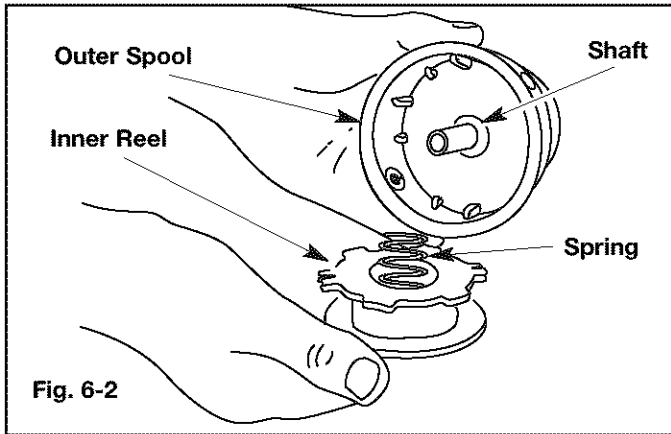

Fig. 6-2
2. Remove the inner reel from the outer spool (Fig. 6-2).
3. Remove spring from the inner reel (Fig. 6-2).
2. Remove the old inner reel from the outer spool (Fig. 6-2).
3. Remove the spring from the old inner reel (Fig. 6-2). Use a clean cloth to clean the spring, shaft, and inner surface of the outer spool.